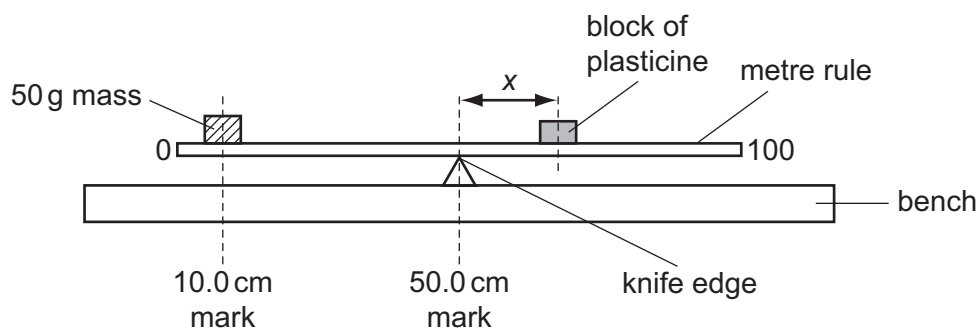

Fig. 3.2
- (b) (i)** Place the knife edge directly under the 50.0 cm mark, as shown in Fig. 3.2.